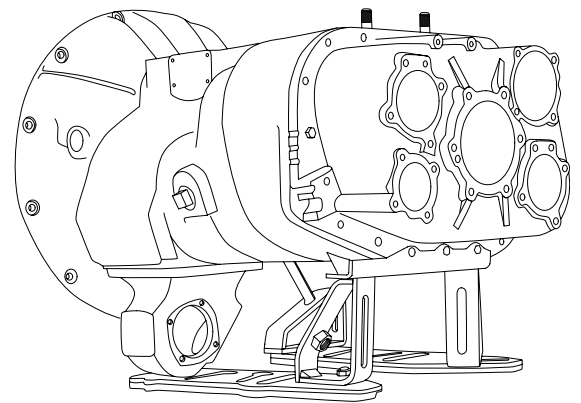

Figure 3
4. Raise transmission jack platform to contact wedges, adjust support rod on third wedge as necessary, and attach wedges to plate as shown in Figure 3. Tighten all fasteners. Transmission and PTO may now be removed from truck.